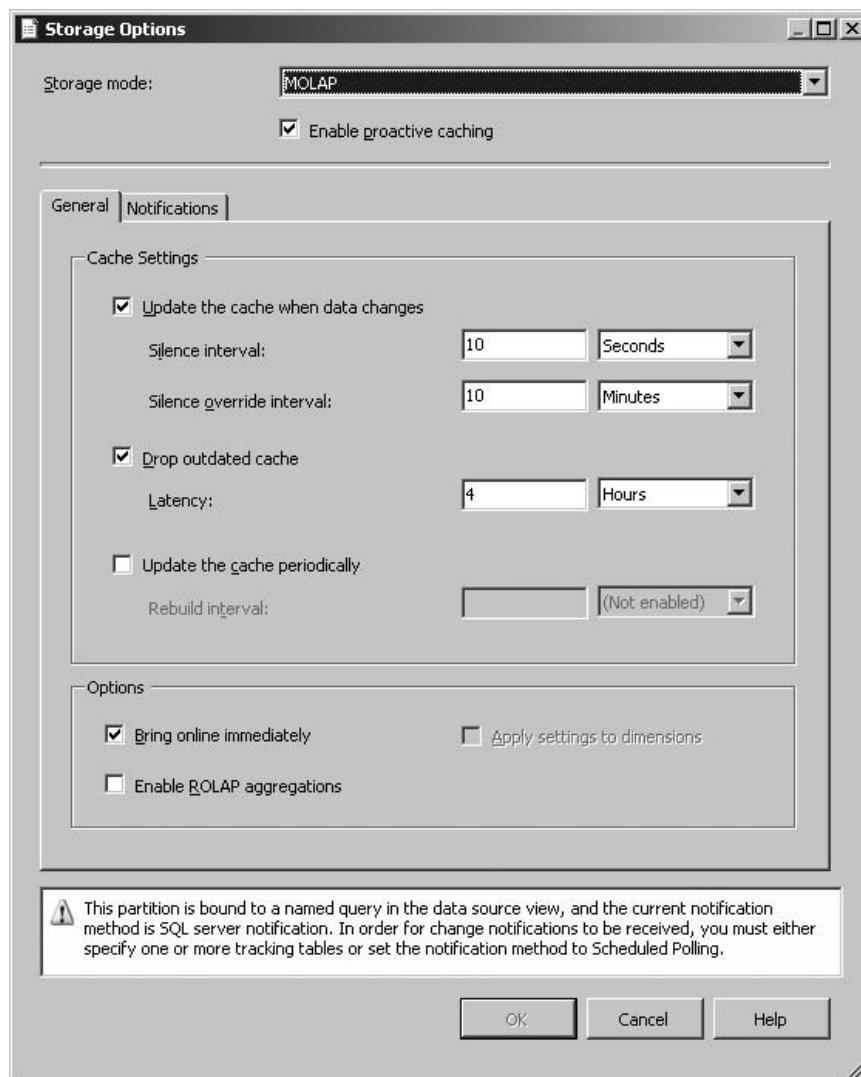

Figure 10-34 The General tab of the Storage Options dialog box
8. Click the Options button. The Storage Options dialog box appears, as shown in Figure 10-34.